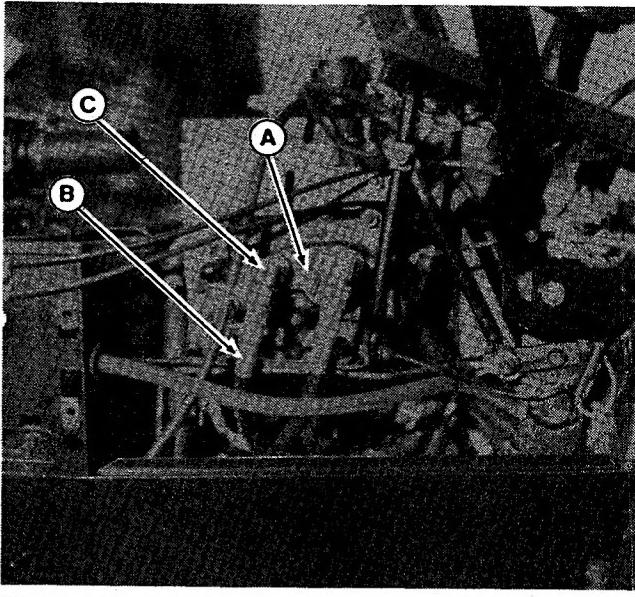

Figure 1. ← Front
- a. Remove the upper left-hand panel from the tractor to expose the valve (A, figure 1).
- b. Notice there are two elbows on left side of valve. Disconnect the hose (B) from the front elbow (C). Remove the elbow (C).
- d. Reinstall the elbow (C) and then connect the hose (B). Tighten the nut on the elbow securely, after elbow is properly positioned.